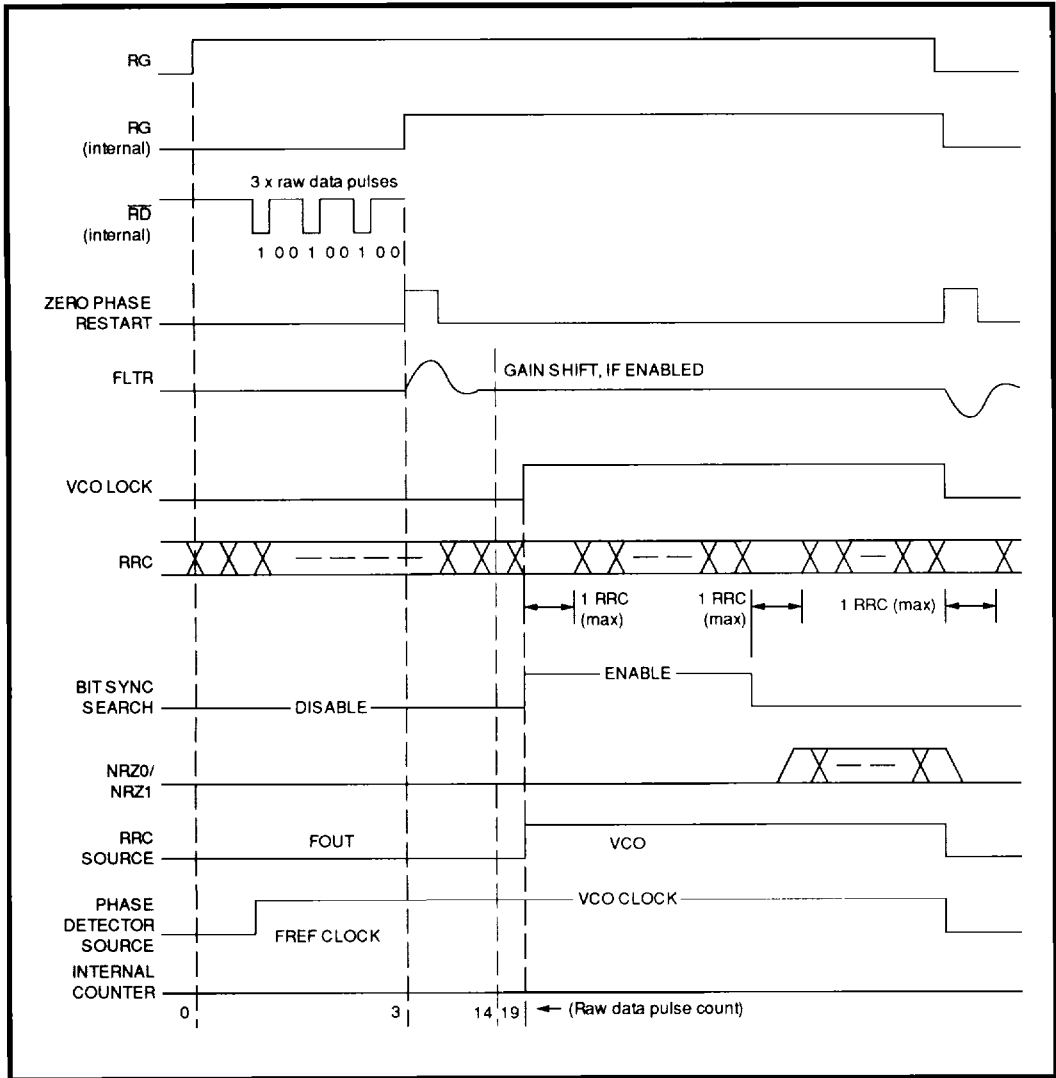

FIGURE 13: Read Mode Locking Sequence
One of two VCO locking modes will be entered depending on the state of the gain shift (GS) bit, or bit 1, in the Control B register. An internal read gate is asserted 3 $\overline{\text{DRD}}$ transitions after read gate is asserted, see Figure 13. The phase detector then enters a high gain mode of operation to support fast phase acquisition. After an internal counter counts a total of 14 transitions